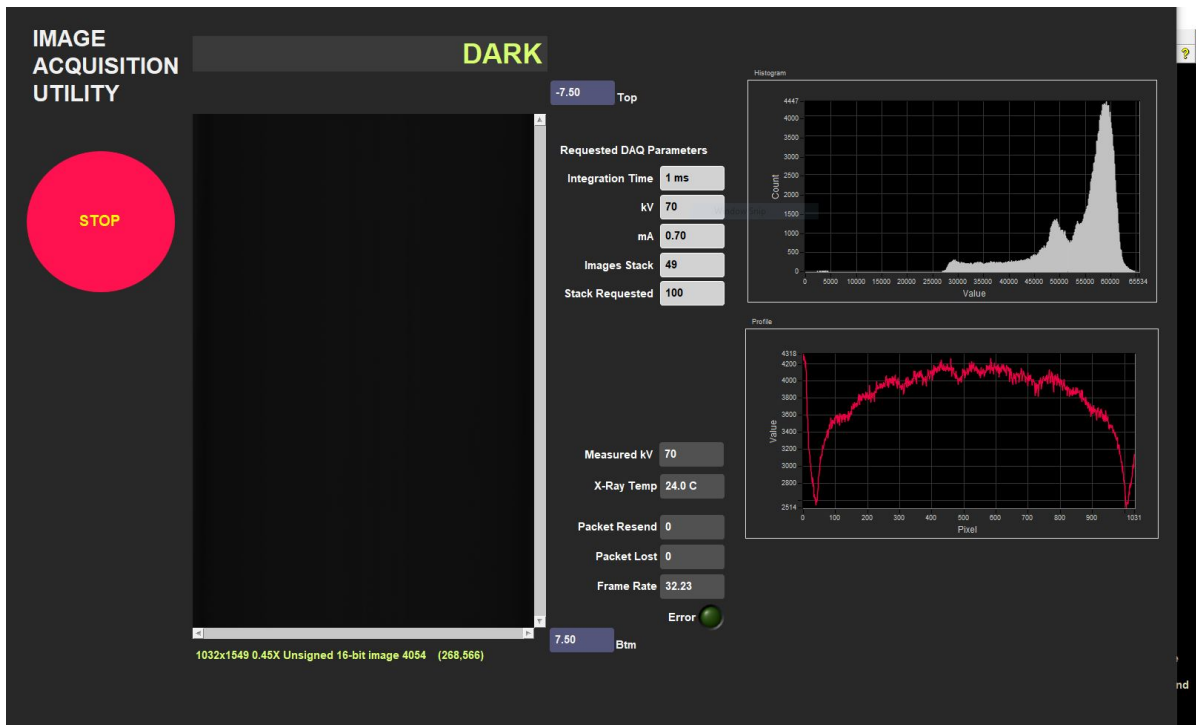

Figure 7. Dark Image Acquisition Window
- a. The **X-Ray Image Acquisition** window will open (Figure 7). During acquisition, the image window appears black but you will see values in the histogram and in the image line profile.